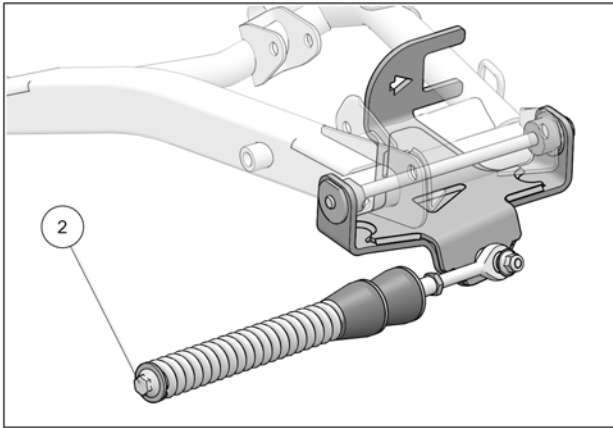

Fig. 11
12. Verify that spring assembly bolt (2) is tightened to the recommended torque specification: 75 N•m [55 lb•ft]. Refer to Fig. 11